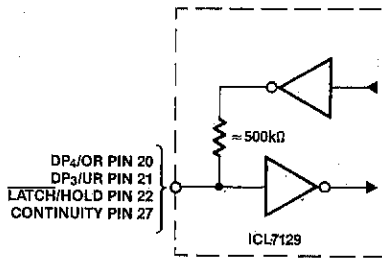

Figure 7. "Weak Output"
Four of the pins of the ICL7129 can be used as either inputs or outputs. The specific pin numbers and functions are described on the Pin Assignments and Functions (Table 1). If the output function of the pin is not desired in an application it can easily be overridden by connecting the pin to V+ (HI) or DGND (LO). This connection will not damage the device because the output impedance of these pins is quite high. A simplified schematic of these input/output pins is shown in Figure 7. Since there is approximately 500kΩ in series with the output driver, the pin (when used as an output) can only drive very light loads such as 4000 series, 74CXX-type CMOS logic, or other high input impedance devices. The output drive capability of these four pins is limited to 3μA, nominally.